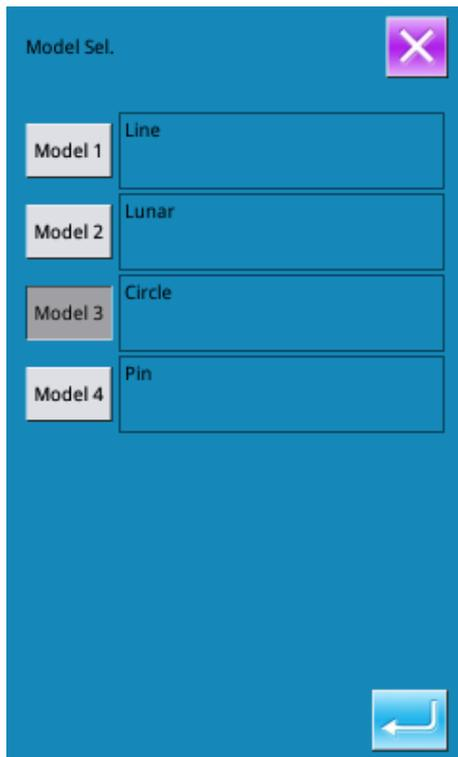

Figure 1
- Press the “Knotting Shape” and then select “Model 3 (Round Knotting)” in the Model Selection interface, where user can edit the round knotting, as shown in figure 1.